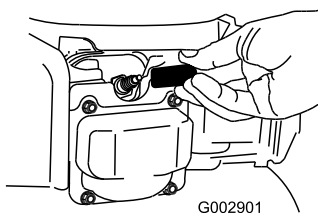

Figure 38
2. Disconnect the spark plug wire from the spark plug (Figure 38) before performing any maintenance procedure.